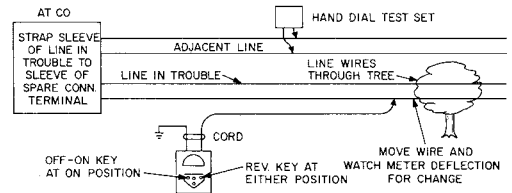

Fig. 8—Strapped Sleeve Method Test
- (3) If an adjacent line is not available for dialing the spare connector terminal, and if the fault on the line in trouble is not of sufficient value to interfere with dialing, use the hand test set on the line in trouble to call the test desk or operator at the master office. Have the test deskman or operator dial the spare connector terminal and hold the connection for a prearranged length of time, eg, two minutes. With the TALK-MON. key on the dial hand test set in the monitoring position, the combinationman may monitor on the line while the test deskman is placing the call. Evidence of the operation of the cut-off relay will be a click in the receiver of the hand set or a change in the volume of line noise.
- (4) After the battery and ground have been removed from the line, proceed with the desired tests.
- 8.02** A typical application of this method of testing is illustrated in Fig. 8.